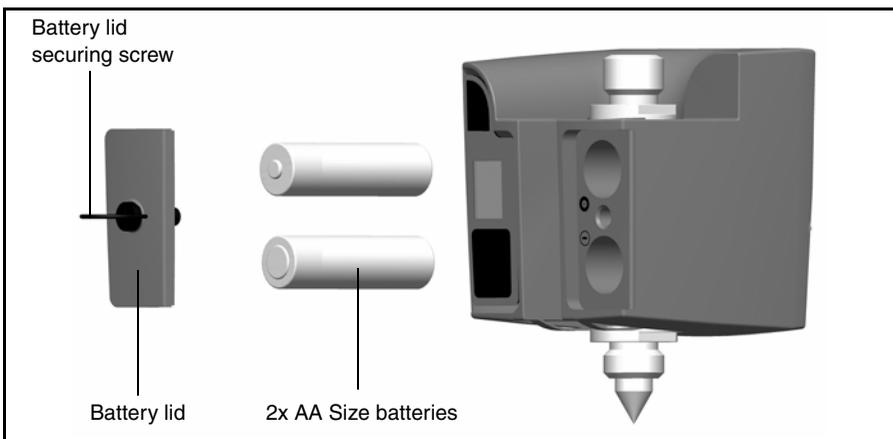

Figure 7.60 Target ID battery change
4. Fit the battery lid and then secure it by turning the screw a quarter of a turn clockwise. See figure 7.60